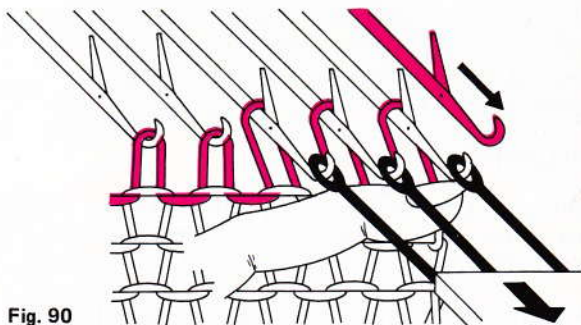

Fig. 90
- Bring the first needle at each side from A position to B position (fig. 90).
- Hold the knitting against the needle bed with the left hand. With the 3-stitch transfer tool pick up the first 3 stitches (fig. 90).